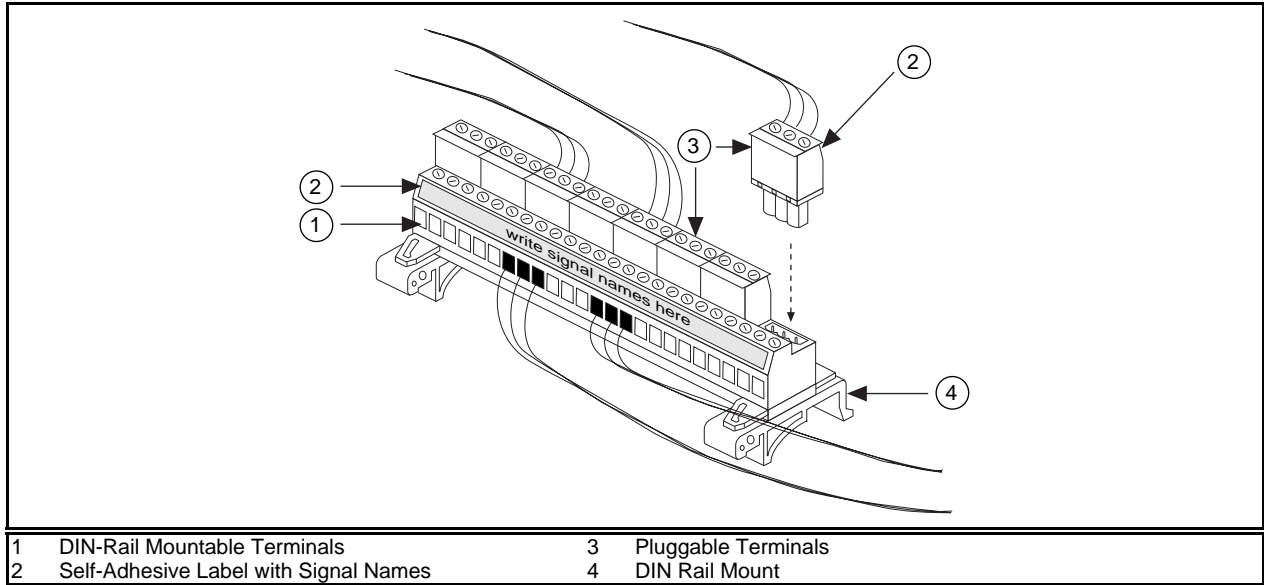

Figure 2. TBX-24F Components
4. Connect your field signal wires to the TBX-24F pluggable terminal that connects to the appropriate terminal for your SCXI module (see Figure 2).
- Write your signal names on the self-adhesive labels and affix the labels to your TBX-24F DIN-rail mountable and pluggable terminals (see Figure 2).
Figure 2 shows a unique feature of the TBX-24F; there are eight sets of three pluggable terminals you can use to disconnect field wires from your system without disconnecting them from the terminals. For example, you can remove the plug, with field wires intact, and then connect the field wires to another terminal block or measuring device. The plugs are keyed so that you can only insert them one way.